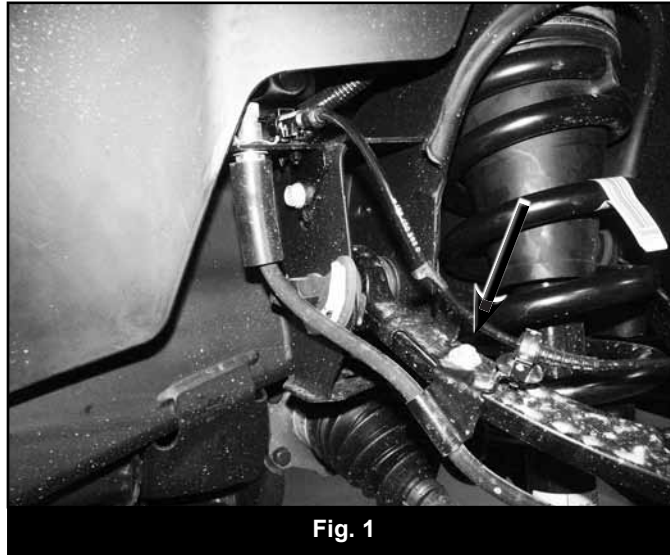

Fig. 1
5. Disconnect the ABS line from the connector on the frame (Fig 1). Remove the ABS line from the retaining clips at the frame, upper control arm and knuckle.
6. Disconnect the brake line bracket from the upper control arm (Fig 1). Retain bolt.